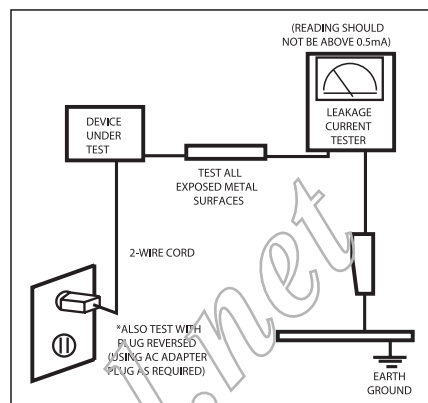

Figure 1-1 Leakage Current Test Circuit
3. Leakage Current Hot Check (Figure 1-1):